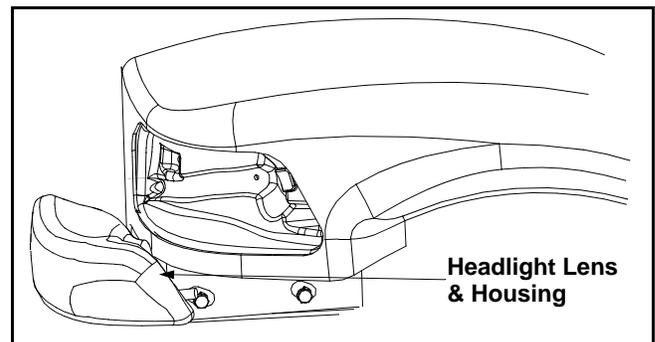

Figure 16
- Remove the headlight lens and housing from the front. The lens and the housing are connected. See Figure 16.